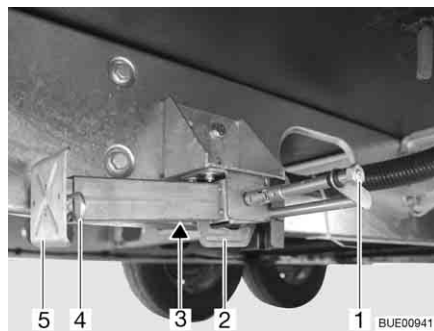

Fig. 34 Steady leg
- Place the socket spanner on the hexagonal nut (Fig. 34,1) and rotate until the steady leg is in a perpendicular downward position.
- If the length of the steady leg can be adjusted, remove the splint (Fig. 34,4) out of the support foot extension (Fig. 34,5).
- Place the socket spanner on the hexagon nut (Fig. 34,1) and rotate until the steady leg is clear of the ground.
- Push in the support foot extension (Fig. 34,5) and insert the splint (Fig. 34,4) in the drilled hole in the support foot extension.
- Rotate the hexagonal nut (Fig. 34,1) until the steady leg has swung upwards and the guide (Fig. 34,2) has reached the very end of the slot (Fig. 34,3).